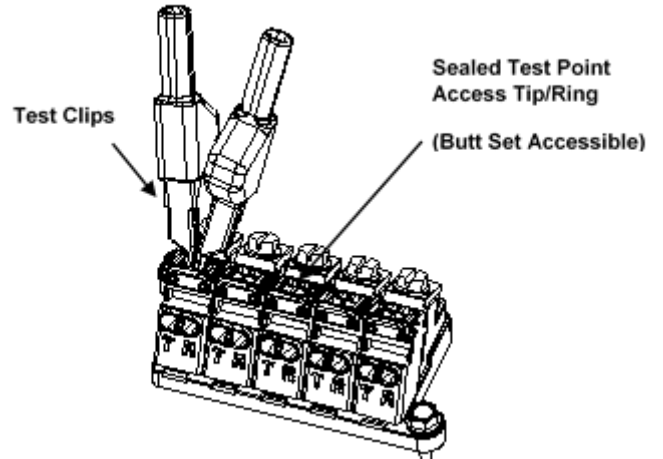

Figure 4
1. With Driver in the fully closed position, insert test clips into tip/ring test port access holes located at top of driver (Figure 4).